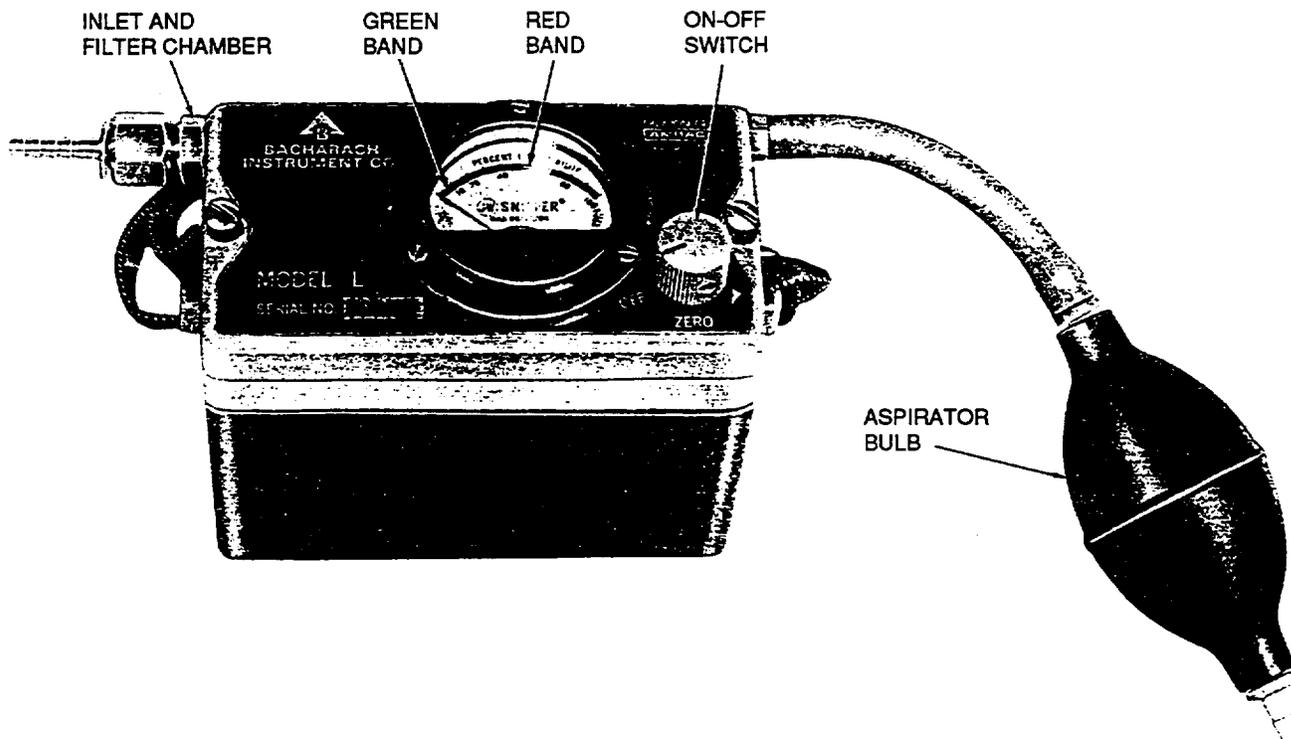

Fig. 1 - E Gas Indicator
2.01 The E gas indicator, illustrated in Fig. 1, weighs about 6 pounds. The following items are furnished with the indicator.
2.02 The indicator consists of the following items housed in a plastic and metal case (see Fig. 1 and 2).
2.04 The meter face of the indicator is color coded, as shown in Fig. 1, with a green band from 0 to 10 percent and a red band beyond 10 percent. These colors indicate satisfactory and unsatisfactory atmospheres, respectively, as discussed in Section 620-140-501.
4.02 The graduations on the meter scale, shown in Fig. 1, are in percent of the lower explosive limit (decimal equivalents on older units) of combustible gases usually found in manholes. A deflection for the needle between 0 and 100 shows how closely the sample approaches the minimum concentration required for an explosion. If the needle is deflected to the extreme right-hand side of the scale and remains there, the concentration of gas is in the explosive range.